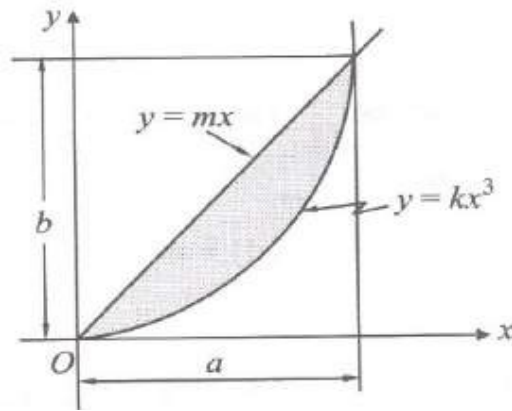

Figure 2.
b) Find the center of gravity of the shaded area as shown in the Figure 2.